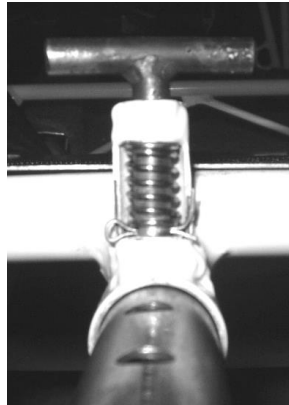

Figure 1: Tee-handle seat locking pin (fully engaged) looking at the front of the seat looking aft.
- 1.1) Confirm both seats have full fore and aft travel. Ensure the tee-handle locking pin system is working correctly and fully engaging into the seat adjustment track beneath the seat (Figure 1).